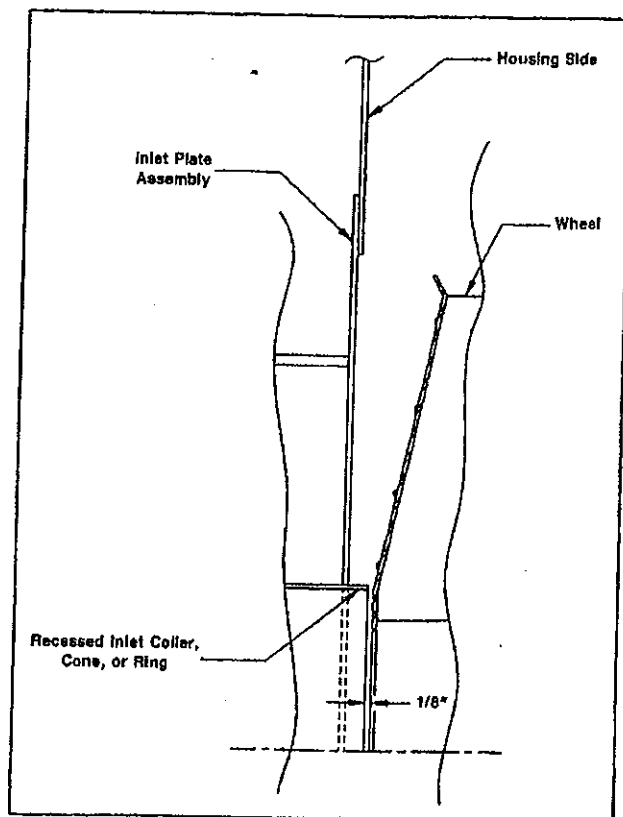

Figure 3
6. When installing a new wheel, the proper wheel-to-inlet clearance must be maintained (see Figure 3).